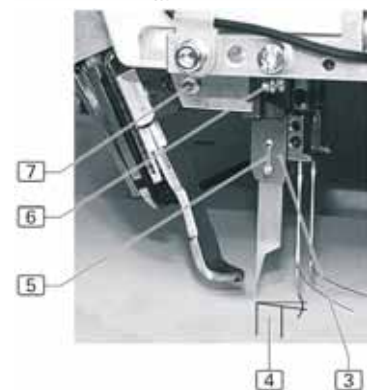

fig. 35
**fig. 35:** When the centre knife is switched off, LED S04 on safety initiator **5** must flash. The safety initiator **5** must be positioned at a distance of 0.3 – 0.5 mm from the knife bar.